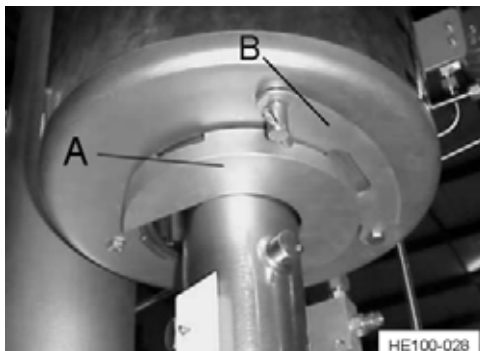

Figure 61 - Installed Shaft Clamp
2. Remove top two (2) exposed scraper blades.
4. Install shaft clamp around teeth of tube and shaft. (See Figure 61, Item A)
5. Close locking latch. (See Figure 61, Item B)